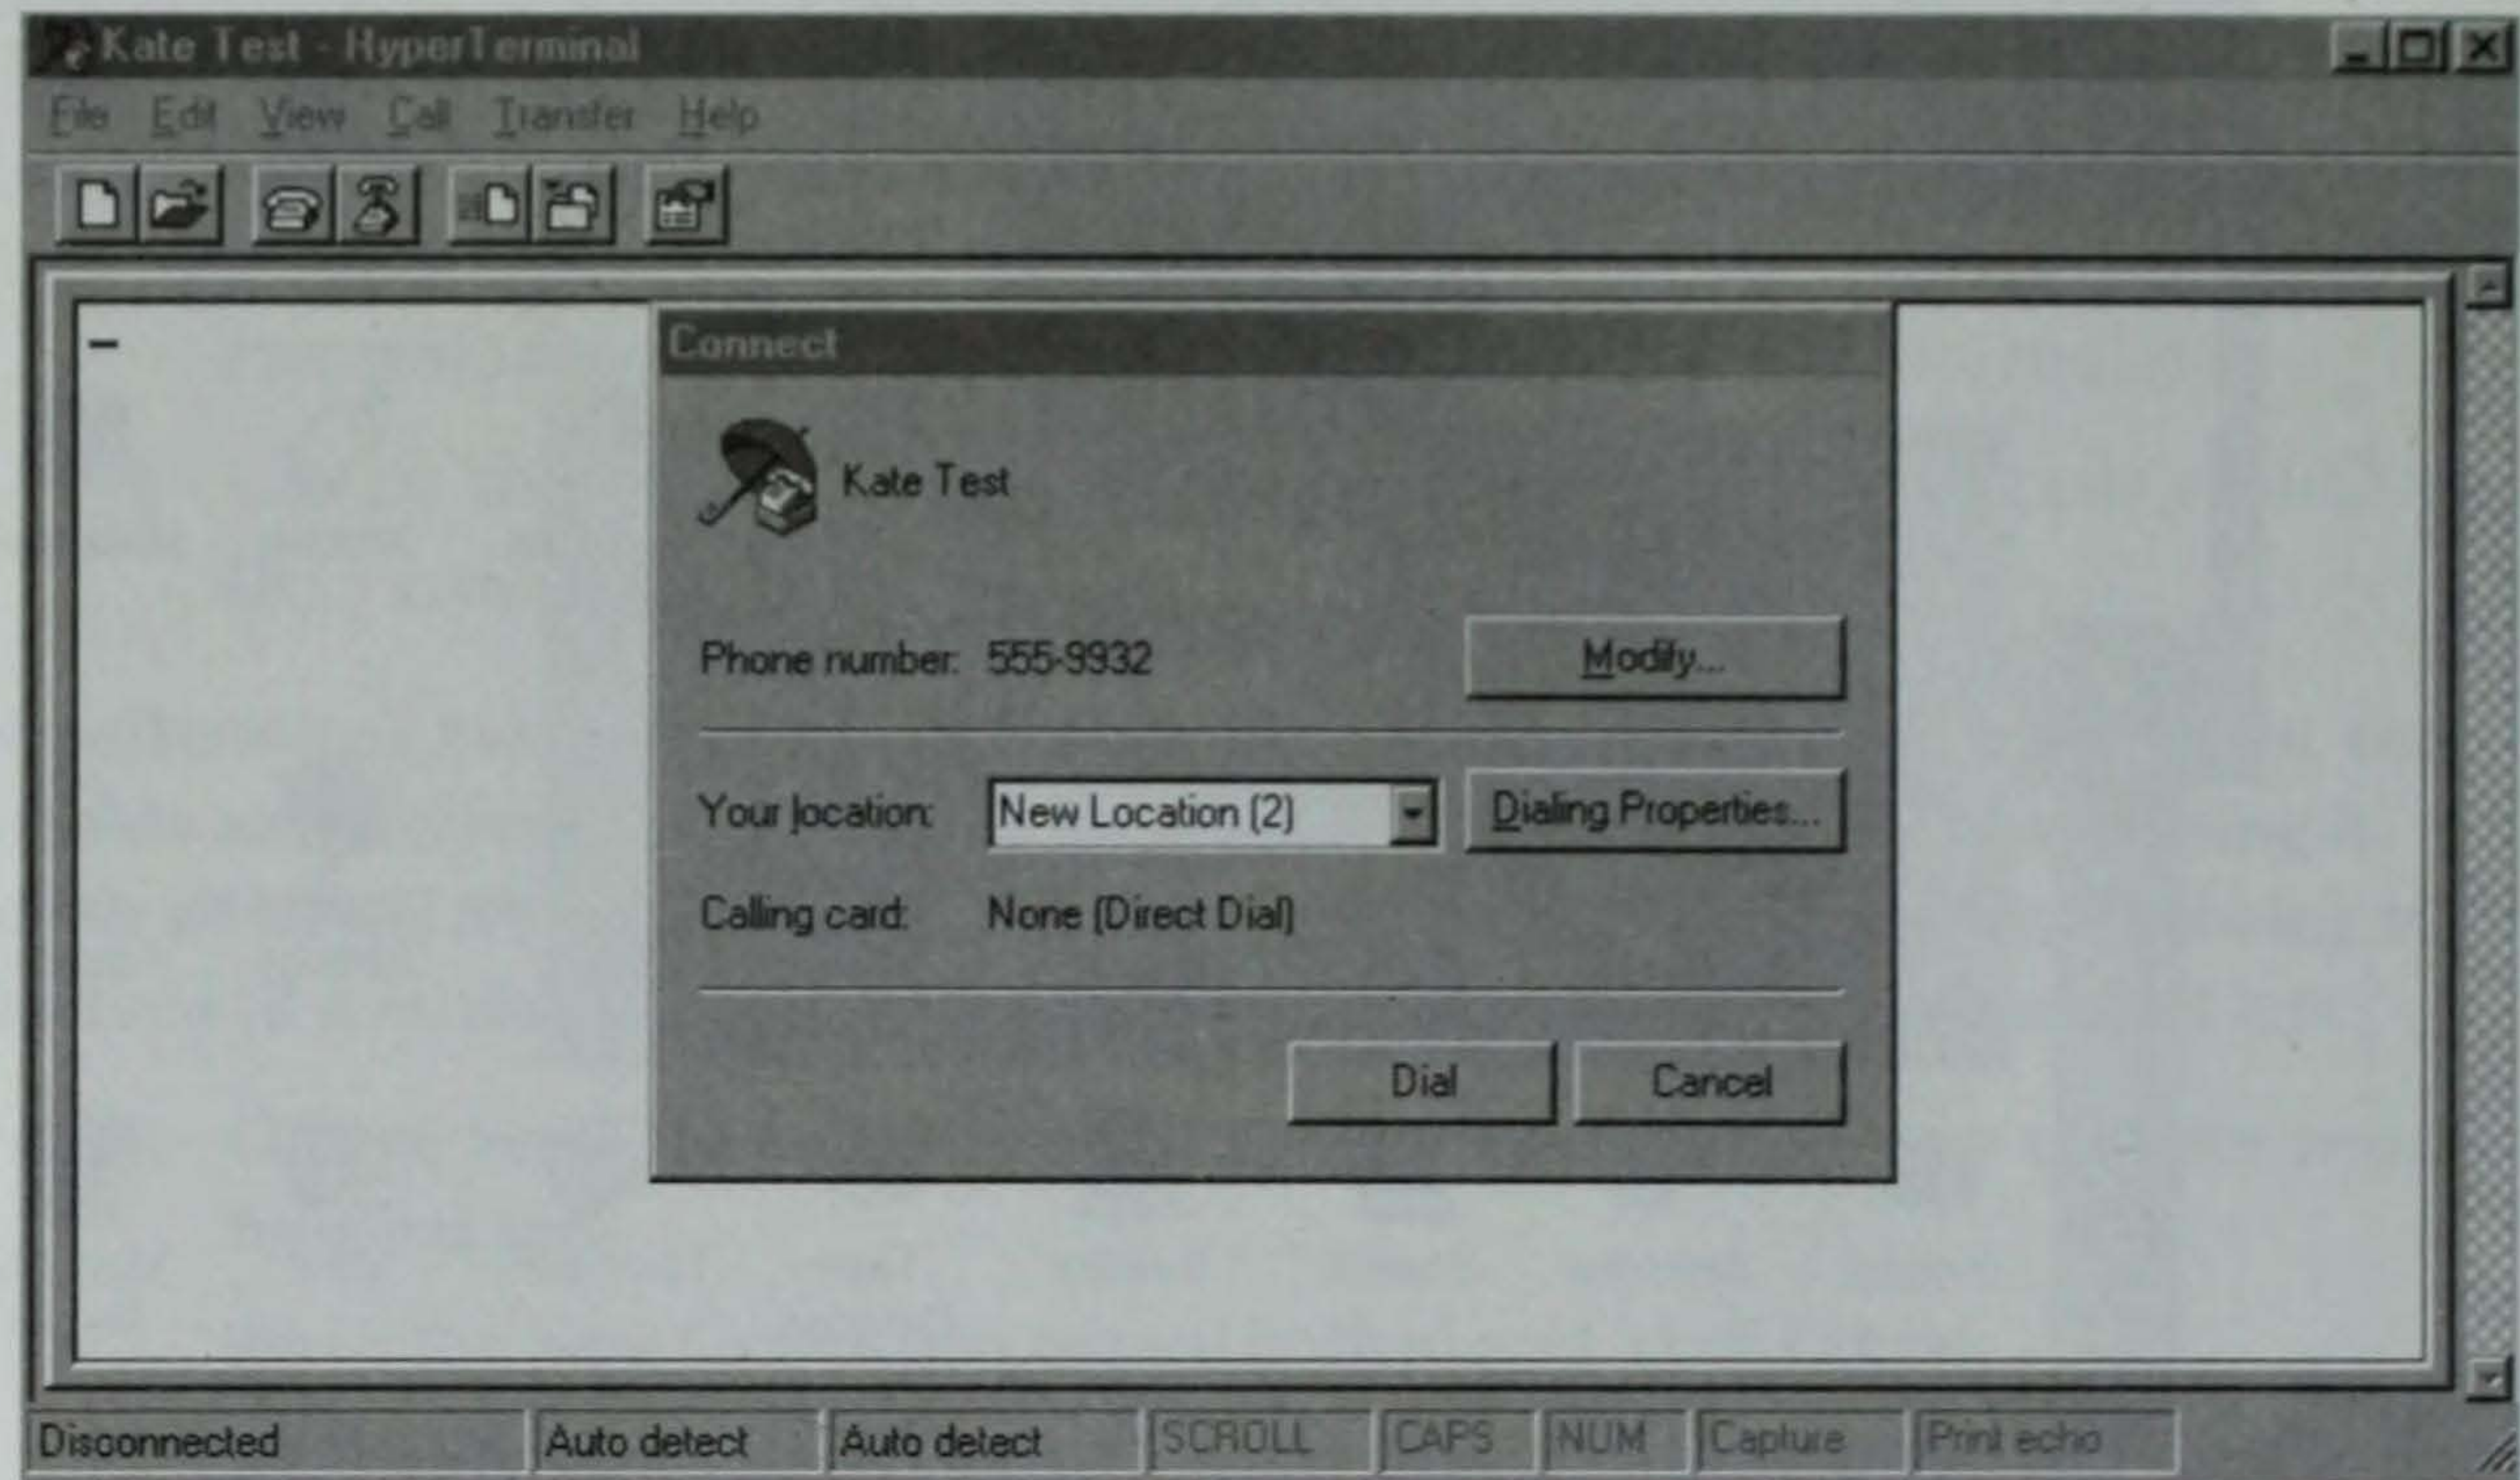

Figure 10.6 Screenshot of HyperTerminal.
7. Verify that your modem can dial out using HyperTerminal. On the File menu, click New Connection, and then follow the instructions on your screen, as seen in Figure 10.6 on page 242.
2. Double-click the Add Printer icon, then click Next. (See Figure 10.6.)